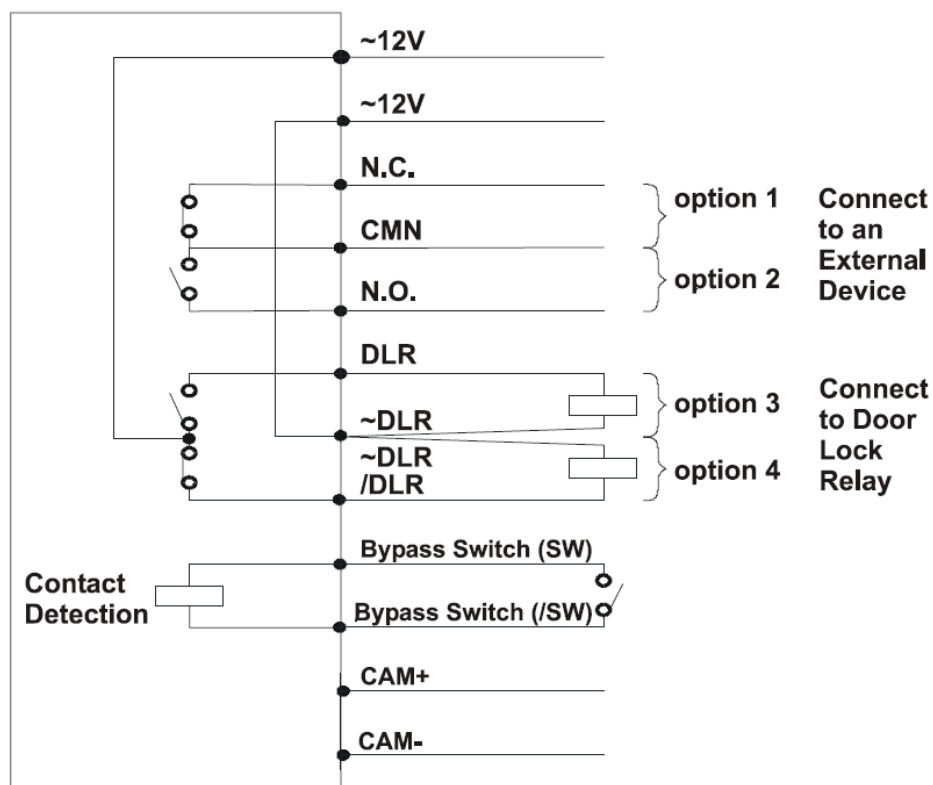

Figure 5-1. Connectors Scheme
Figure 5-1 shows the terminal locations on the wire connector provided with the unit. This connector is attached at the base of the internal component. All wiring to the unit is attached to the wire connector.
- b. Connect the two 12V lead wires from the 12V AC power adapter, one to each of the **"~12V"** terminals (Figure 5-1).